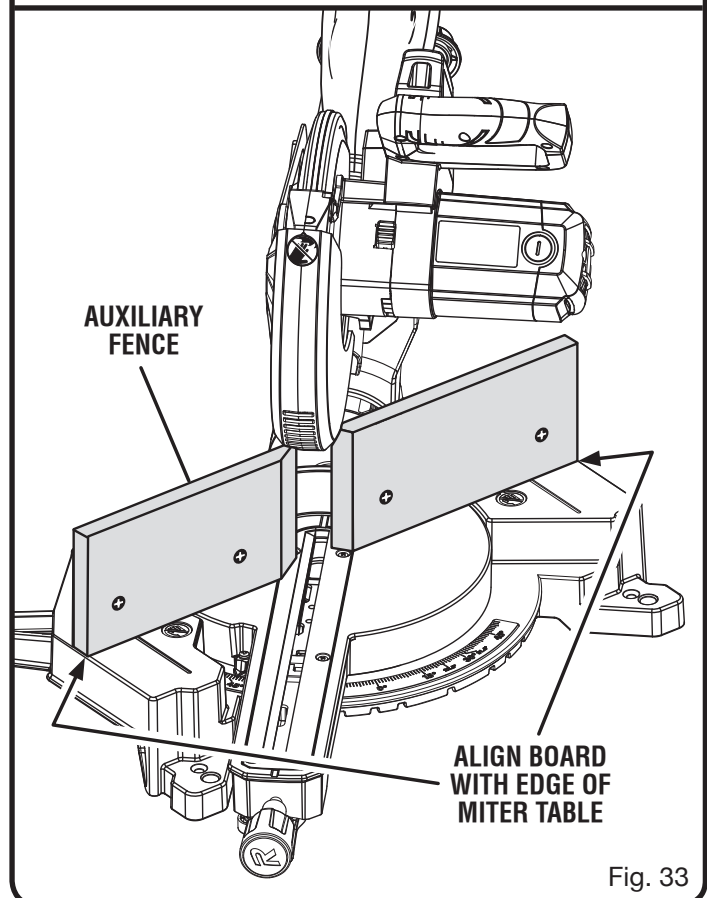

Fig. 33
See Figure 33.
- Assemble and attach auxiliary fence as shown in figure 33.